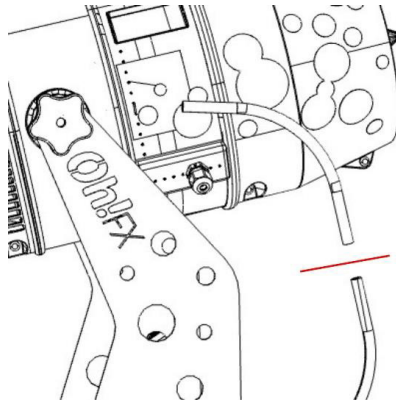

Fig. 2
2. Cut the machine's main foam fluid suction tube approximately 20 cm from the machine, as shown in Fig. 2.